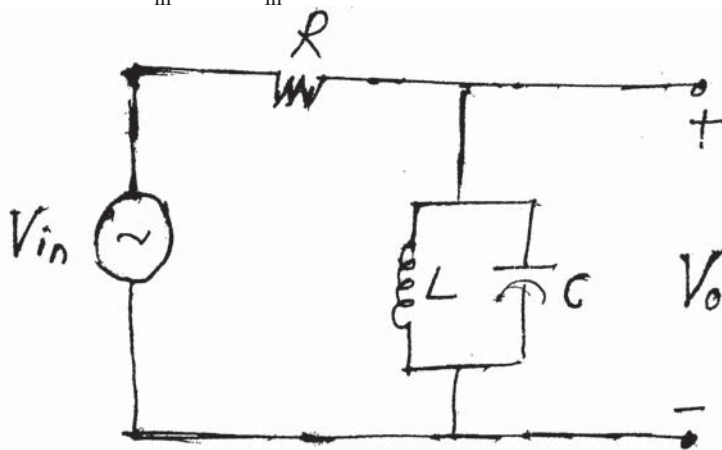

Fig. 8
- b) For the parallel L-C network shown in Fig. 8 find the Transfer function  $\frac{V_o}{I_{in}}$  and compute the sensitivities of  $K$ ,  $W_p$  and  $Q_p$  with respect to the passive elements  $R$ ,  $L$  and  $C$ . 8